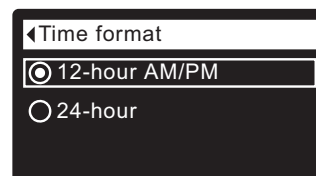

FIG. 58
1. From any of the rolling status screens, press the SELECT (O) button to display the **Main menu**.
3. Press the SELECT (O) button to display the User preferences menu.
5. Press the SELECT (O) button to display the Time format menu (See Figure 58).
6. If the desired time format already has a dot next to it (See Figure 58), go to Step 7. Otherwise, press the DOWN (▼) or UP (▲) buttons to scroll to the other time format, then press SELECT (O) to choose it.
7. Press the SELECT (O) button. The display will go back to the User preferences menu.